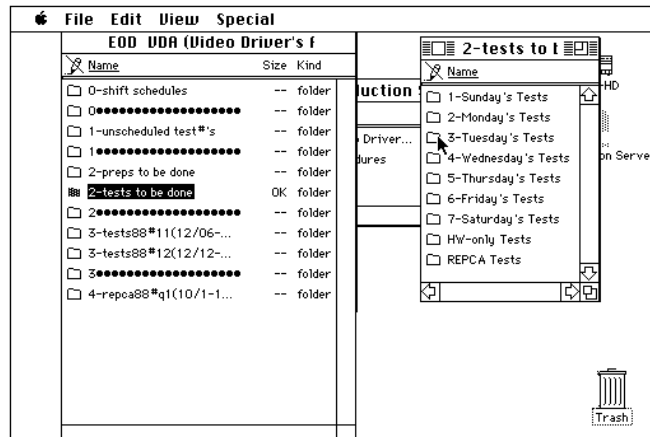

Figure 9
- 11.2 Position the mouse pointer on the tests folder for the applicable day of the week and double click to open it (this example is for Tuesday). See Figure 9.